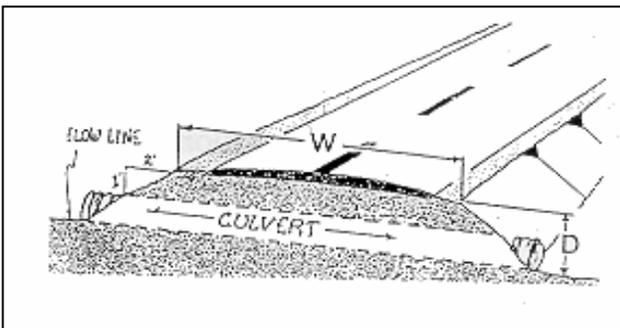

Figure 1
1. Calculate the road shoulder height above the streambed or ditch bottom (“D” in Figure 1).
3. Add the length on each side to the road surface and shoulder width (“W” in Figure 1).